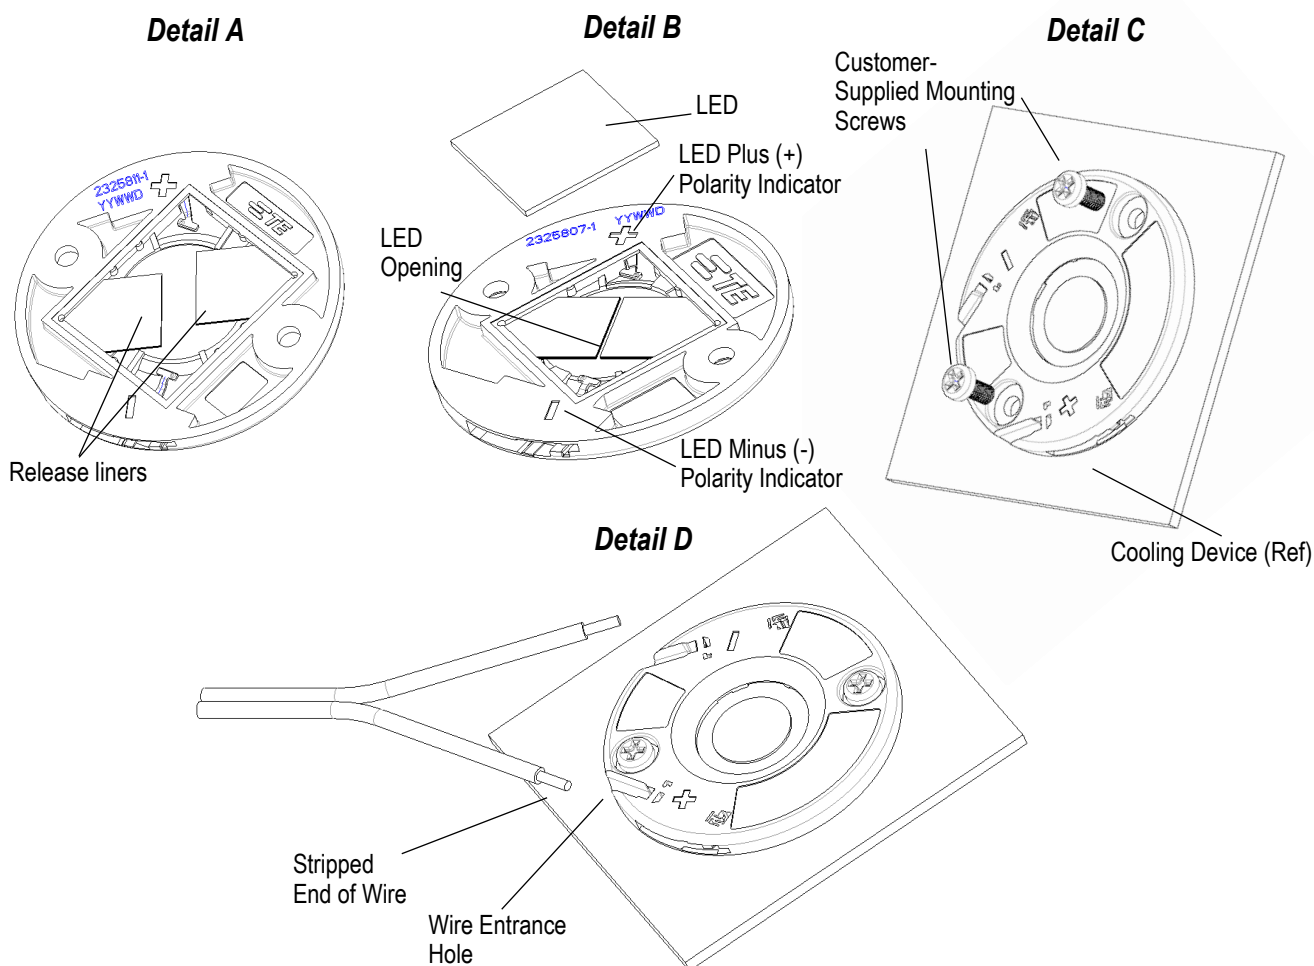

Figure 4
1. Take both release liners in the middle with a tweezer and pull the release liners with one move perpendicular to the release liners off the tape. See Figure 4, details A.
2. The LED polarity indicator must be observed when orienting the LED into the LED opening. Insert the LED and push the LED hard down in the corners with the tape, ensure you do not press the light emitting (yellow part) part of the LED. See Figure 4, detail B.
3. The LED holder (bottom side) must be placed on the cooling device so that the screws holes align over the holes in the cooling device. The LED holder must be secured to the cooling device using two customer-supplied M3 or No. 4-40 with minimum length of 8mm mounting screws. All mounting screws used with panhead type LED holders should be tightened to a torque between 0.4Nm and 0.6Nm [3.45 and 5.31in.-lb]. All mounting screws used with countersunk type LED holders should be tightened to a torque between 0.2Nm and 0.4Nm [1.73 and 3.45in.-lb]. See Figure 4, detail C.
4. Strip the end of each wire, ensure the wire end is acceptable (see figure 2, proper length and shape). Insert the wire straight (aligned with centerline of the hole) in the entrance hole according the polarity indicator until the wire bottoms. See Figure 4, Detail D.